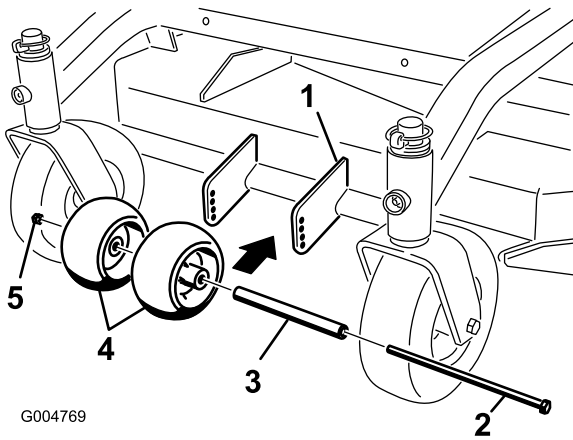

Figure 12
1. After adjusting height-of-cut, check the anti-scalp rollers so that there is a minimum of 3/8 inch (10 mm) clearance above the ground (Figure 12).
2. If adjustment is needed, remove the bolt, washers and nut (Figure 12).
3. Select a hole position so the anti-scalp rollers are a minimum of 3/8 inch (10 mm) off the ground (Figure 12).
4. Install the bolt and nut (Figure 12).